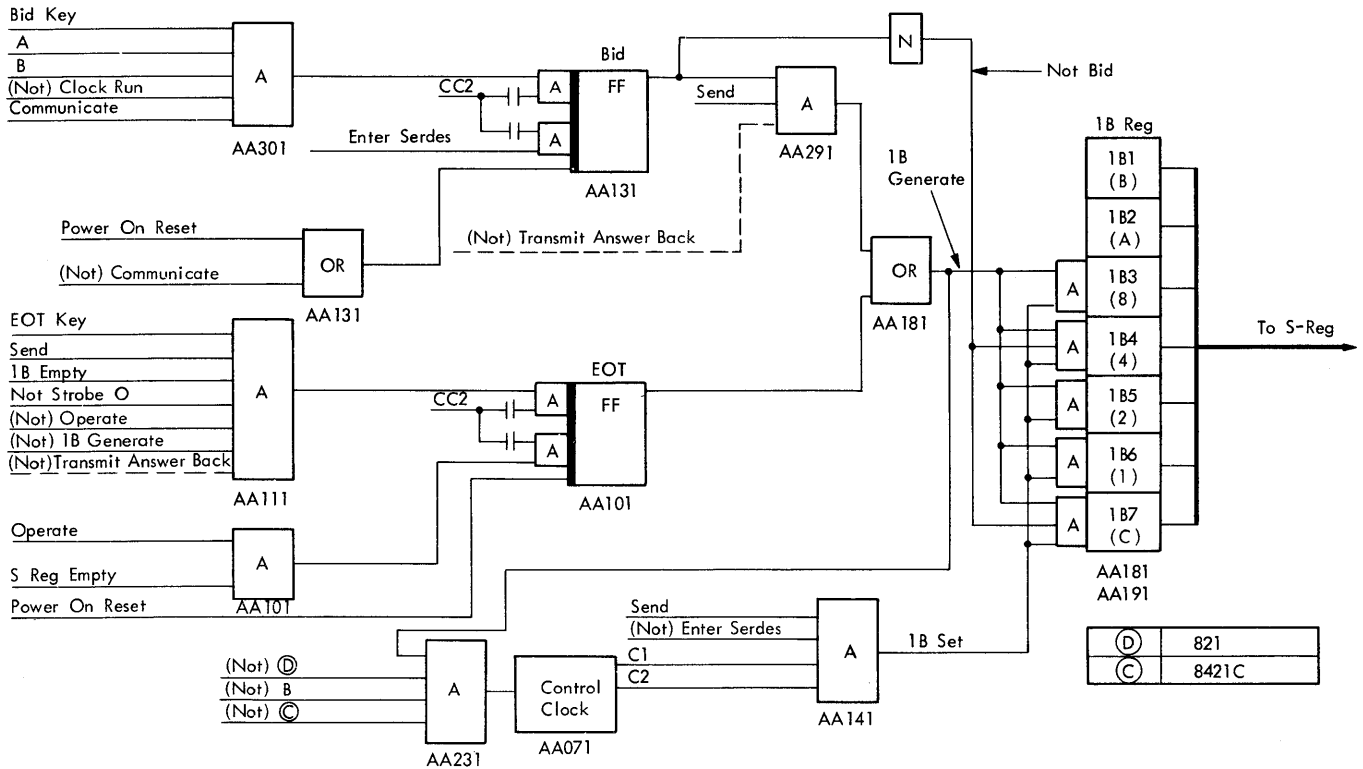

Figure 3-1. Generate Control Characters
The control character inputs to the 1B-register are shown in Figure 3-1. To start sending, the operator presses the Bid key. If (1) the 2740 is in control receive mode, (2) the Local/Communicate switch is in the COMM position, and (3) the serdes clock is not running, the 'bid' trigger turns on. The 'bid' trigger on and the 'send' line up bring up '1B generate.' '1B generate' conditions one leg of the ANDs to the '1B3,' '1B4,' '1B5,' '1B6,' and '1B7' triggers of the 1B-register. '1B generate' also gates on the control clock. '1B set' comes up when both the 'C1' and 'C2' outputs of the control clock are active, the 'send' line is up, and the 'enter serdes' trigger is off. '1B set' completes conditioning the ANDs to the '1B3,' '1B5,' and '1B6' triggers. The 'bid' trigger prevents turning on the '1B4' and '1B7' triggers. Thus, the Ⓓ character (821) is loaded into the 1B-register.
To stop sending, the operator presses the EOT key to return the sending and receiving terminals to control receive mode. This is accomplished by generating and sending the EOT character Ⓒ. When the EOT key is pressed, one leg of an AND to turn on the EOT trigger is conditioned (see Figure 3-1). The other conditions are 'send,' '1B empty,' 'not 1B generate,' 'not strobe O,' and 'not operate.' These conditions ensure that: